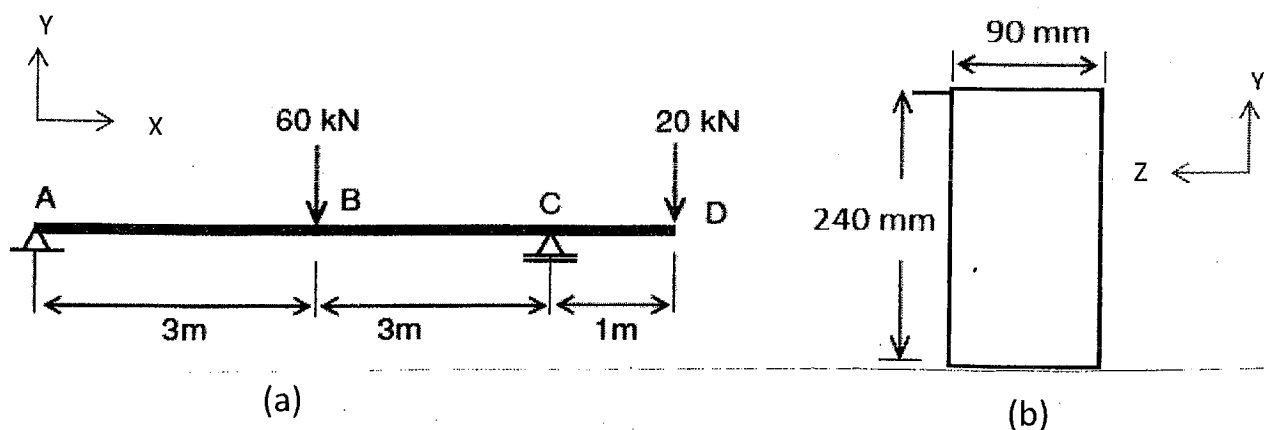

Figure 1
**Duration:** Two (02) hours
**Number of questions:** Four (04)
1. The horizontal beam ABCD shown in Figure 1(a) has a uniform cross-section as shown in Figure 1(b). It is simply supported at A and is continuous over the support at C.
- c. Obtain shear force (V) and momentum (M) variation equations for AB, BC and CD part of the beam. (08 marks)